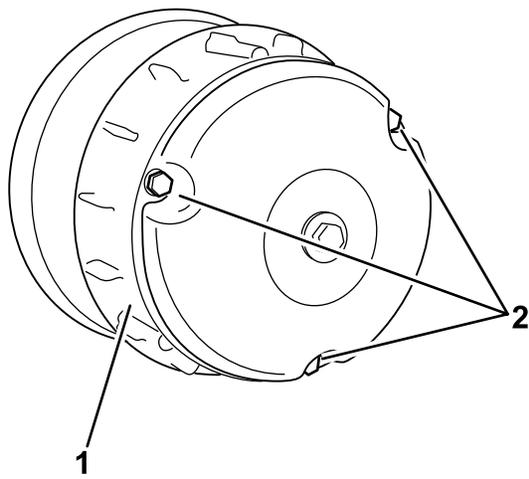

Figure 64
2. Remove the 3 bolts securing the cover to the clutch, and remove the cover (Figure 64).
4. Install the clutch cover and secure it with the 3 bolts (Figure 64) that you removed in 2.